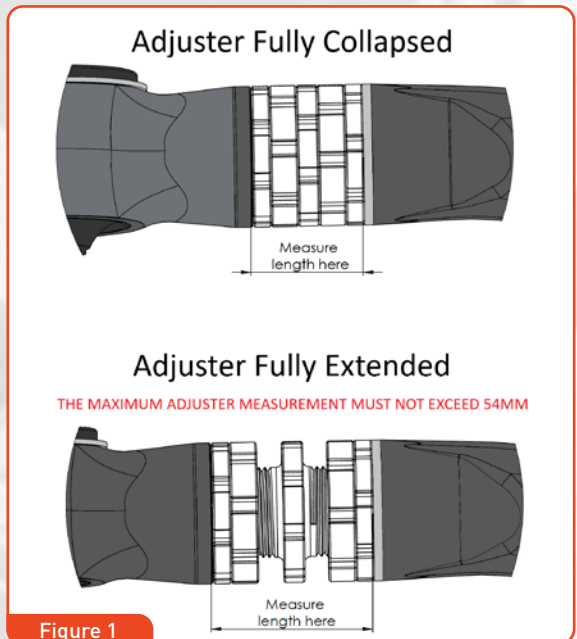

Figure 1
- Adjust the assembly to the recommended settings for your suspension lift. Measuring from the inner face of both the bush aperture and the insert in the main forging. **See Figure 1.**